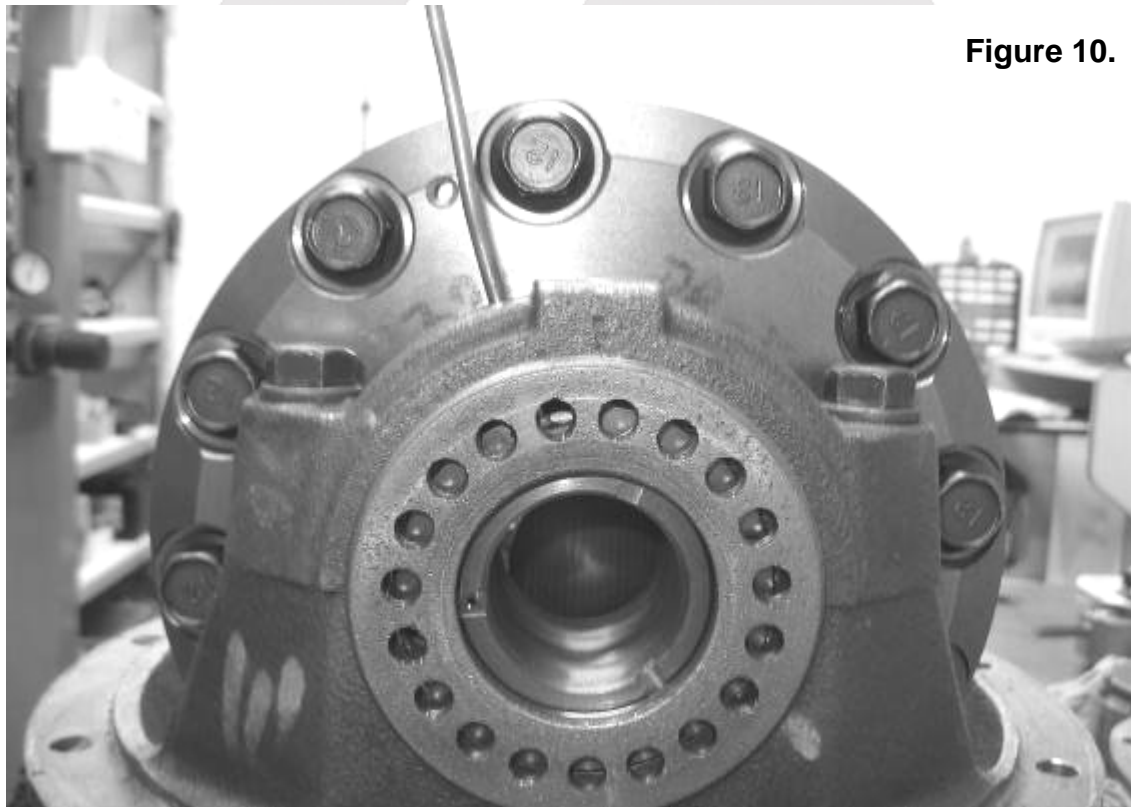

Figure 10.
- ☐ Using a soft jawed vice clamp, setup the bearing cap for drilling the hole at the angle shown (Fig. 10.).